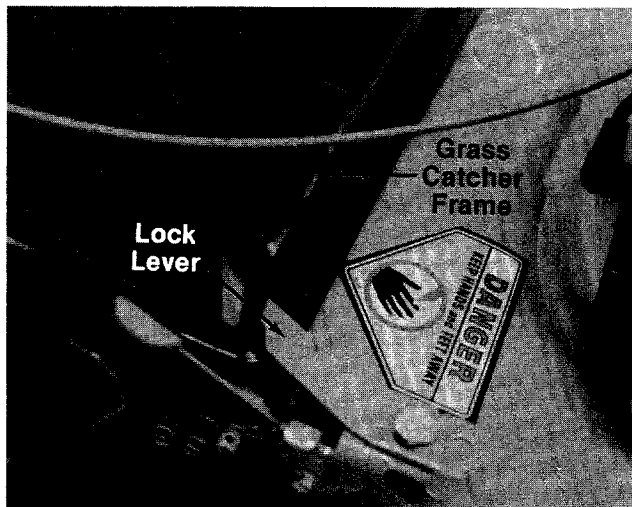

FIGURE 11.
The grass catcher frame will snap into place, secured by the lock lever. See figure 11.
- To remove the grass catcher, unhook the lock lever and slip the grass catcher off the unit. See ← figure 11.